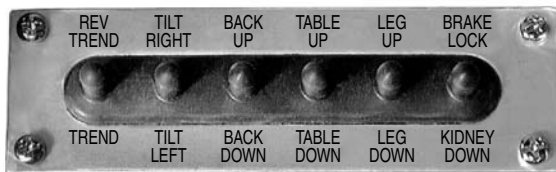

Figure 2-16. Emergency Back-Up Controls
b. In the event of either a power failure or a problem with the hand-held pendant control, the table can be operated using the emergency back-up switches. Simply push the desired emergency switch in the appropriate direction to operate the table functions. See figure 2-16.